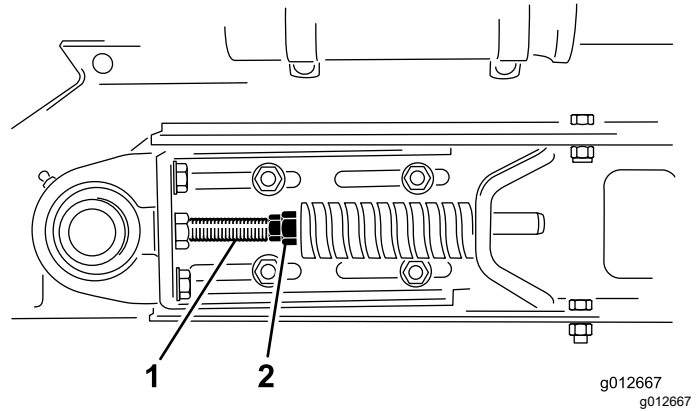

**Figure 29**
2. Remove master link from chain and remove chain from small sprocket (Figure 29).